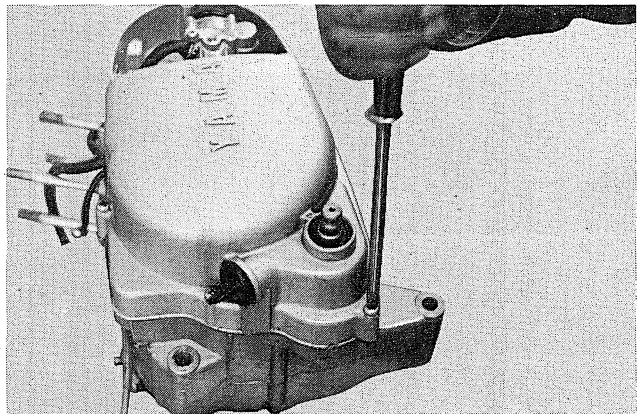

Fig. 3-7-3
- 3) Remove the pan-head screws from the crankcase cover (R), and take off the cover. (Fig. 3-7-3 and 4)